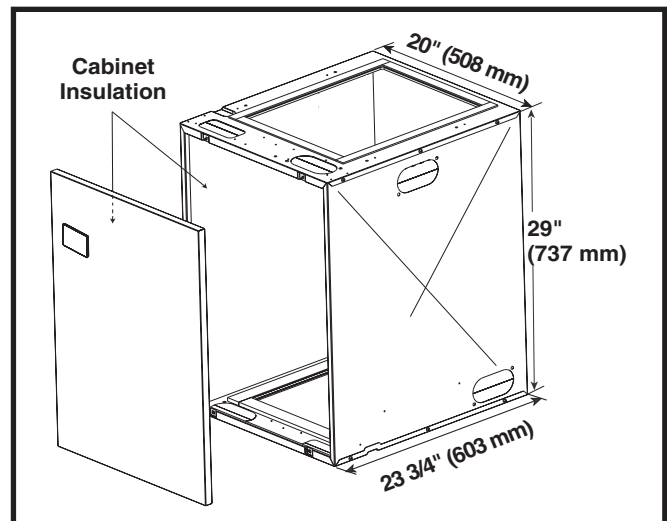

Figure 1. Upflow Coil Cabinet
- Upflow Alcove installations: Use a coil box with a solid door and an upflow stand. Part numbers can be found in the Technical Specifications Literature. See Figure 1 \(page 5\).
For ducted return air systems with air conditioners or heat pumps, either providing an access panel in the duct or using the optional coil cabinet (Figure 1) is recommended. The duct system must be properly sized to account for any additional external static pressure produced from the chosen filtering method.